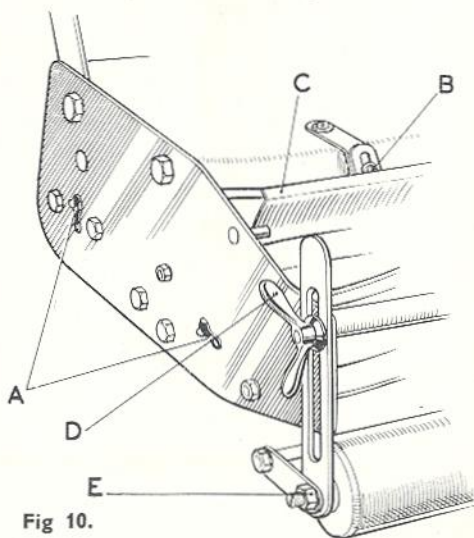

Fig 10.
- (g) Cutter shaft bearing and rear roller shaft bearing on the other side of machine. Access is provided by sliding two oil hole covers (A, Fig. 10) aside.
As wear takes place on the cutting cylinder it may be necessary to adjust the grass delivery plate closer (C, Fig. 10) to the cutter. This adjustment is effected by loosening two screws (B, Fig. 10), and depressing plate to suit the particular need. Tighten nuts.